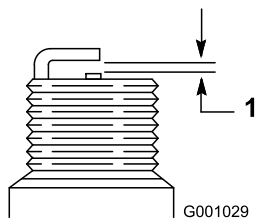

Figure 20
4. Set the gap between the electrodes on a new spark plug at 0.76 mm (0.030 inch) as shown in Figure 20.